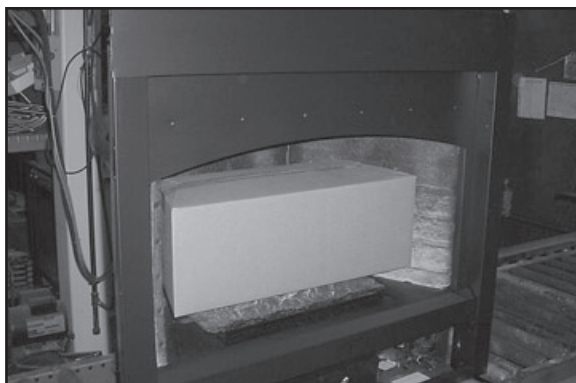

Figure 10.1 /Boxed Logs
- The appliance is shipped with the burner in place with the boxed up log set sitting on it. See Figure 10.1. Remove box.